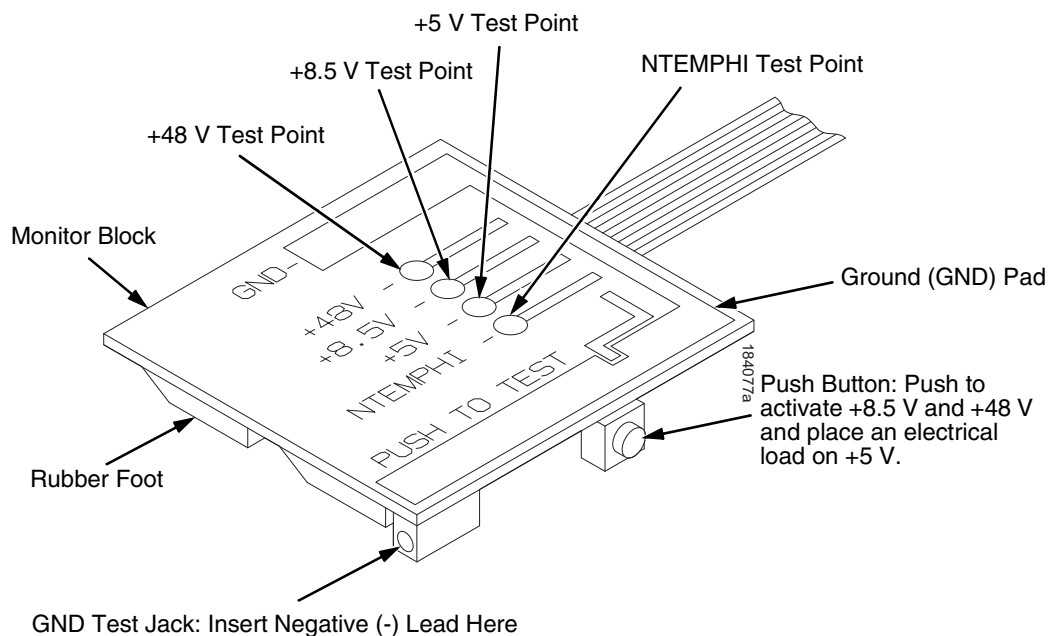

Figure 21. Testing the Power Supply
8. Insert the negative (-) lead of the voltmeter into the ground (GND) test jack on the Monitor Block. If the negative lead does not fit into the GND test jack, touch the negative lead to the ground (GND) pad. (Figure 21.)
10. Touch the positive (+) lead of the voltmeter to the +5 V test point on the Monitor Block. The voltage should be 4.85 to 5.15 volts. (Figure 21.)
11. Measure the voltage at the NTEMPHI test point; it should be greater than 2.4 volts. (Figure 21.)
12. Measure the voltage at the +48 V test point; it should be less than 0.2 volts. (Figure 21.)
13. Measure the voltage at the +8.5 V test point; it should be less than 0.2 volts. (Figure 21.)
14. Press and HOLD IN the Push Button on the Monitor Block. (Figure 21.)